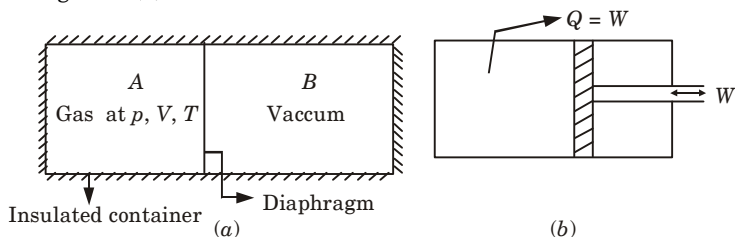

Fig. 2.9.2.
- Let us consider an insulated container divided in two compartments A and B separated by means of a diaphragm as shown in the Fig. 2.9.2(a).